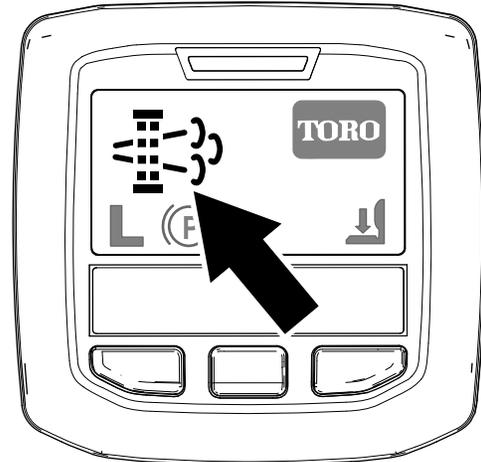

Figure 38
- The parked-regeneration requested icon displays in the InfoCenter (Figure 38).